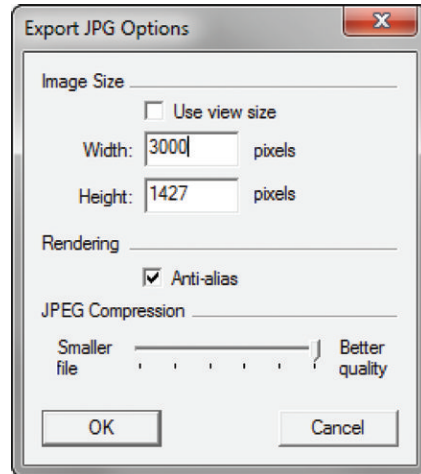

Figure 19.8 Image export options
4. Click on the Options button to set the image resolution as shown in Figure 19.8.